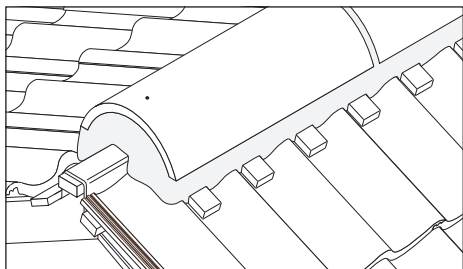

Fig. 4 – Edge bed ridge tiles
- 4 Edge bed the ridge tiles along the roof in the normal way using dentil slips where needed and solid bed the butt joints (Fig. 4).